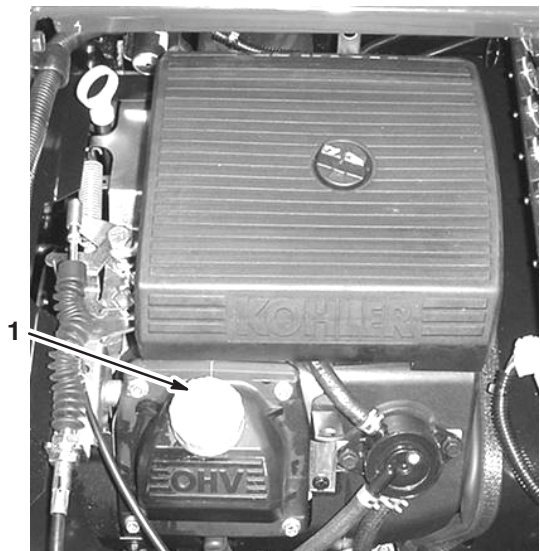

Figure 35
8. Slowly pour approximately 80% of the specified amount of oil into the oil filler tube (Fig. 35).